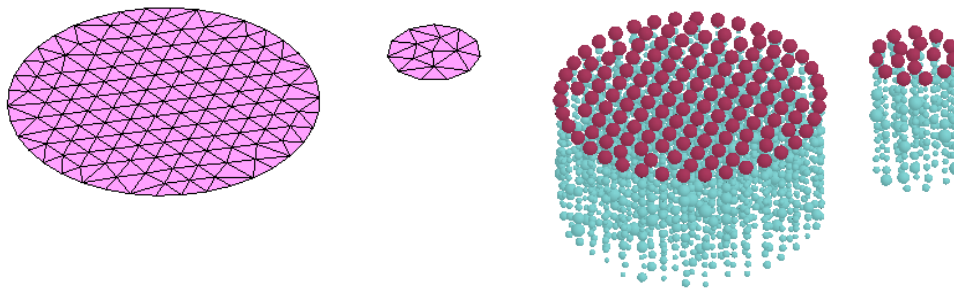

Figure 21. Injection of particles through two different sizes of inlet. Preprocess (left) and postprocess (right).
- Sometimes, the generated inlet is so small that it cannot inject as many particles as intended. In this case, as in the previous one, the mass flow will not be reached. It must be remembered that particles are injected from each node of the mesh. Therefore, fewer nodes will be able to inject fewer particles per unit of time (Figure 21).